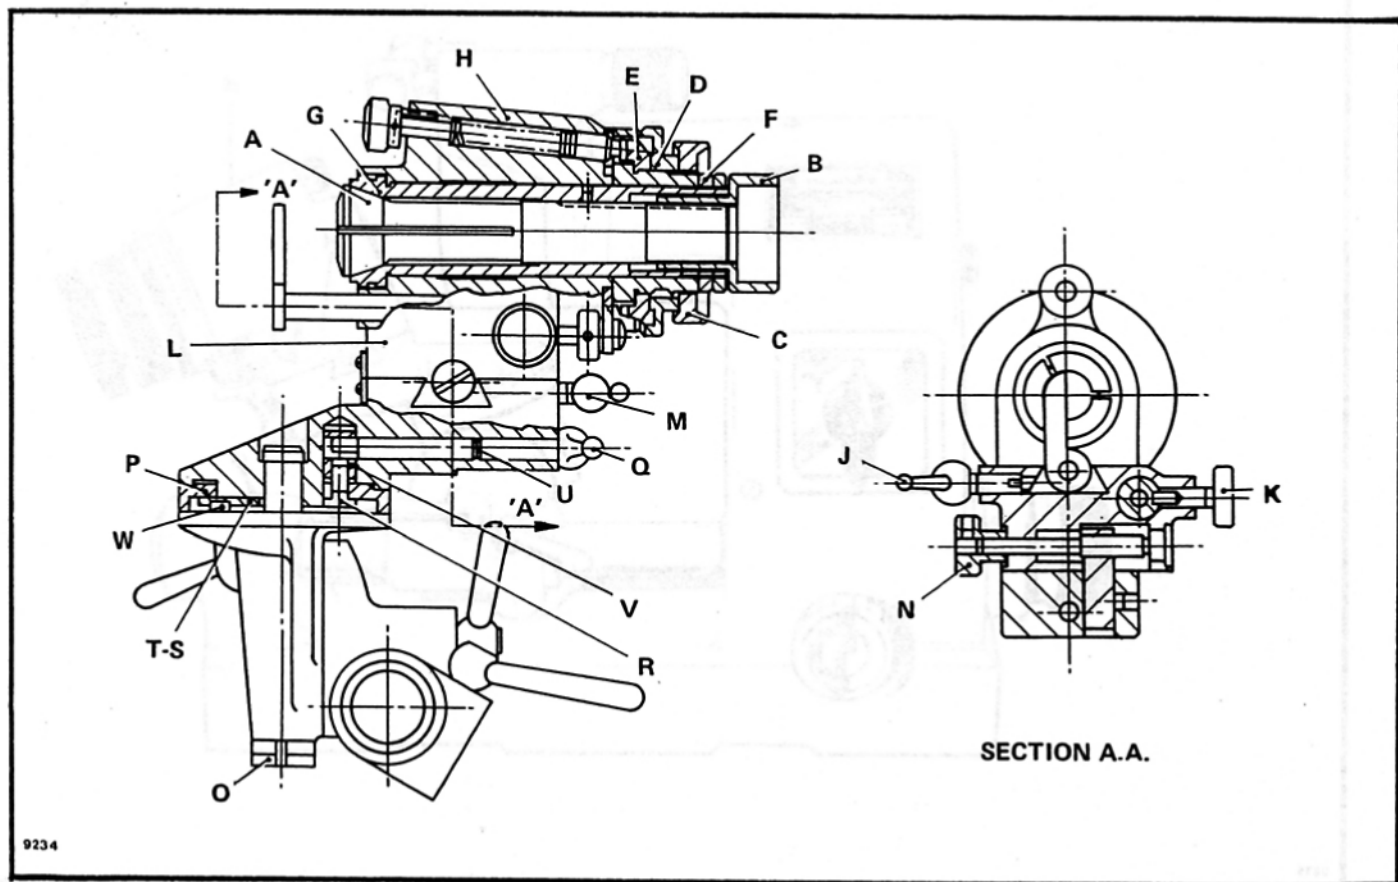

FIG. 38
SERVICING THE INDEX HEAD BRACKET (Fig. 38)
In the following order remove the collet (A) (Fig. 38), collet nut (B) (Fig. 38), ring nut (C) (Fig. 38), micrometer drum (D) (Fig. 38) and index ring (E) (Fig. 38). Remove the two lock nuts (F) (Fig. 38) and pull out the collet sleeve (G) (Fig. 38). Clean out the collet sleeve (G) (Fig. 38) and the collet housing (H) (Fig. 38) with paraffin. Re-pack the collet sleeve recess with grease and reassemble.
Release the clamping lever (J) (Fig. 38) and remove the screw (K) (Fig. 38). This will enable the collet housing (H) (Fig. 38) to be removed. Clean all the bearing surfaces, lightly oil and wipe. The cross-slide (L) (Fig. 38) cannot be removed, move it to its extreme position by releasing the clamping screw (M) (Fig. 38) and turning the screw (N) (Fig. 38). Clean all the bearing surfaces, lightly oil and wipe dry.
The swivel arm can be removed by unlocking the two nuts (O) (Fig. 38). Clean the bearing surfaces and lightly oil.
Adjusting the Clamping Mechanism of Index Drum (P) (Fig. 38)
If the clamping lever (Q) (Fig. 38) will not lock, the swivel arm index drum (P) (Fig. 38) and the screw (R) (Fig. 38) will have to be adjusted. Remove the swivel arm by unlocking the two nuts (O) (Fig. 38), then remove the screw (S) (Fig. 38), stop plate (T) (Fig. 38) and release the screw (U) (Fig. 38). Pull out the clamping lever (Q) (Fig. 38) and remove the index drum (P) (Fig. 38) to uncover the adjusting nut (V) (Fig. 38) and the screw (R) (Fig. 38). Remove these two details (V and R) (Fig. 38) and reduce the screw relative to the nut by rotating it through 180°. Use the reverse procedure for reassembly.
Because the stop plate (T) (Fig. 38) is frequently striking the stop pins (W) (Fig. 38) the swivel range may after some time exceed 90°. To correct this turn the eccentric stop pins (W) (Fig. 38). Adjust the cylindrical setting stop pin first and then the swivel motion stop pin.